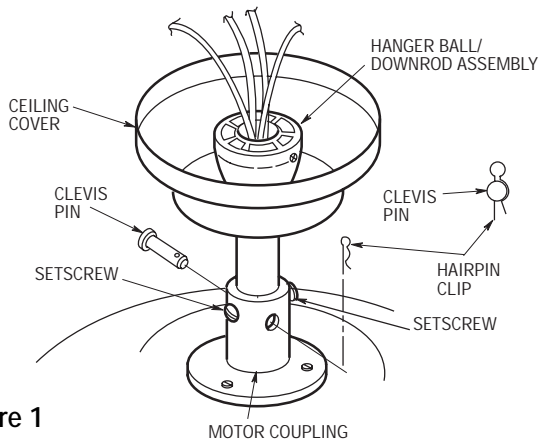

Figure 1
- 3.** Remove the two setscrews from the motor coupling. Align the clevis pin holes in the downrod with the holes in the motor coupling. Install the clevis pin and secure with the hairpin clip (Figure 1). The clevis pin must go through the holes in the motor coupling and the holes in the downrod. Be sure to
- 4. Reinstall the two setscrews in the motor coupling. While pulling up on the hanger ball, securely tighten the setscrews. (Figure 1).